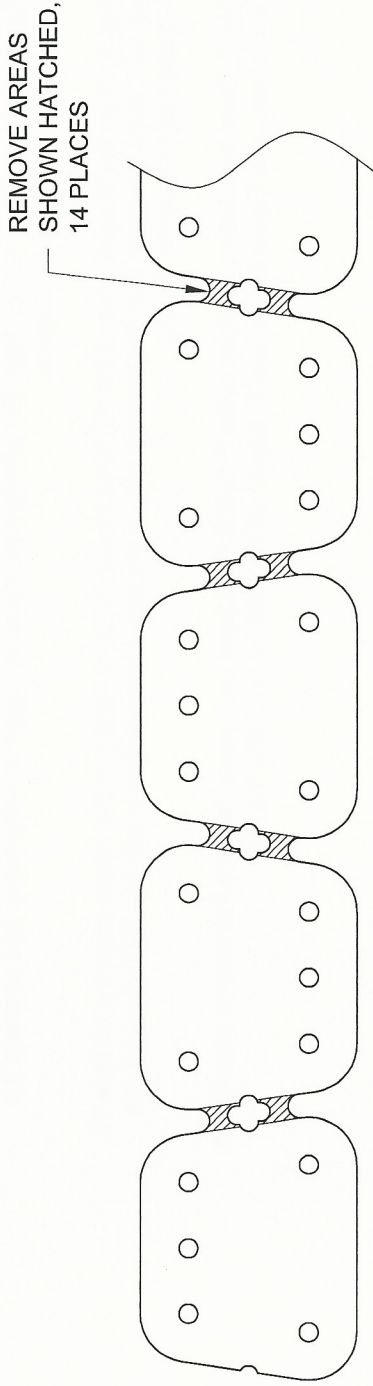

FIGURE 1:
Step 1: Separate the F-1294C Tabs by removing the material called out in Figure 1.